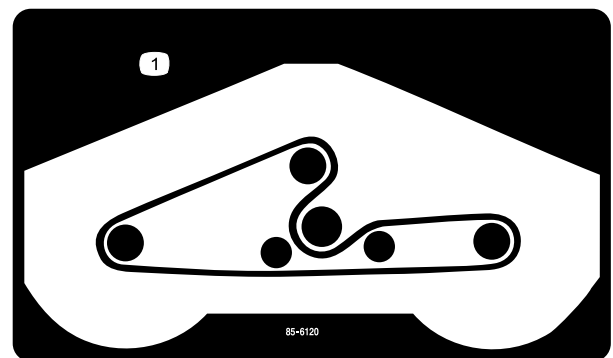

Figure 24
- Route the new belt around the spindle pulleys and through the idler pulley assembly as shown in Figure 24.